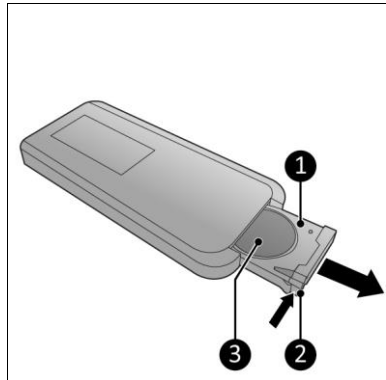

Figure 11
1. Press on the lip (Figure 11, pos. 2) and remove the slot (Figure 11).
2. Remove the battery (if present) (Figure 11, pos. 3).